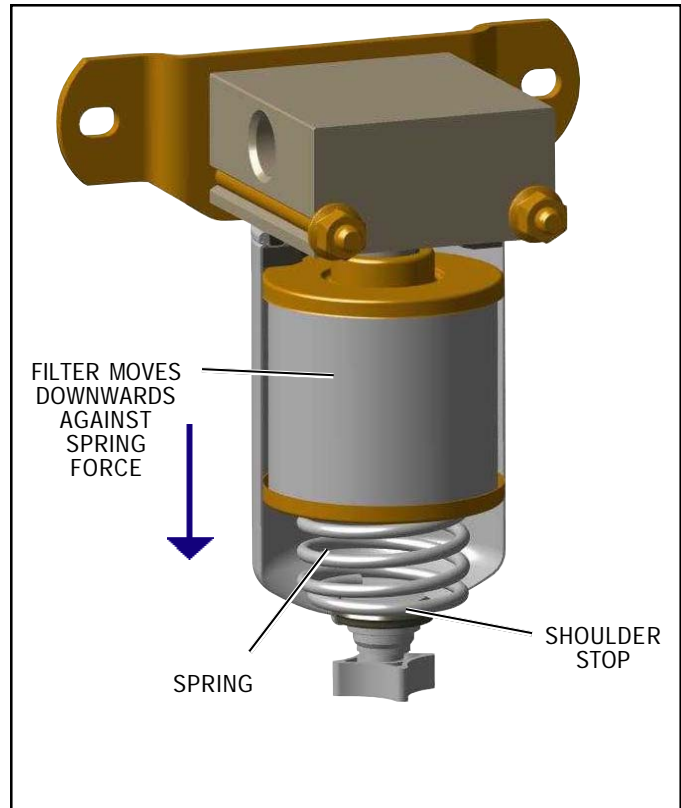

FIGURE 4 - BYPASS
**FILTER BYPASS** (refer to Figure 4)